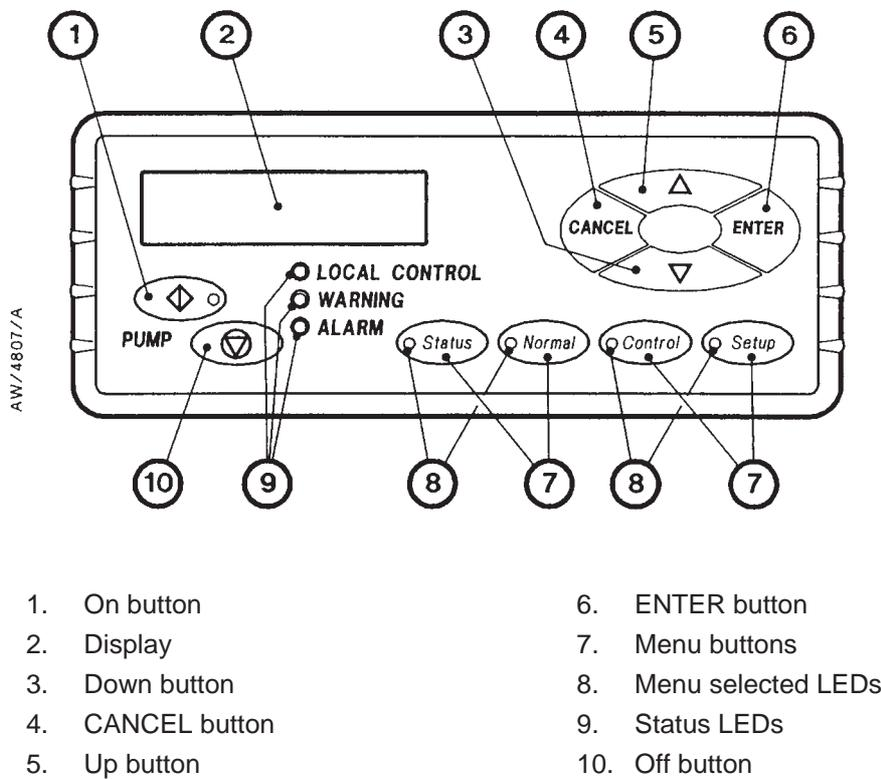
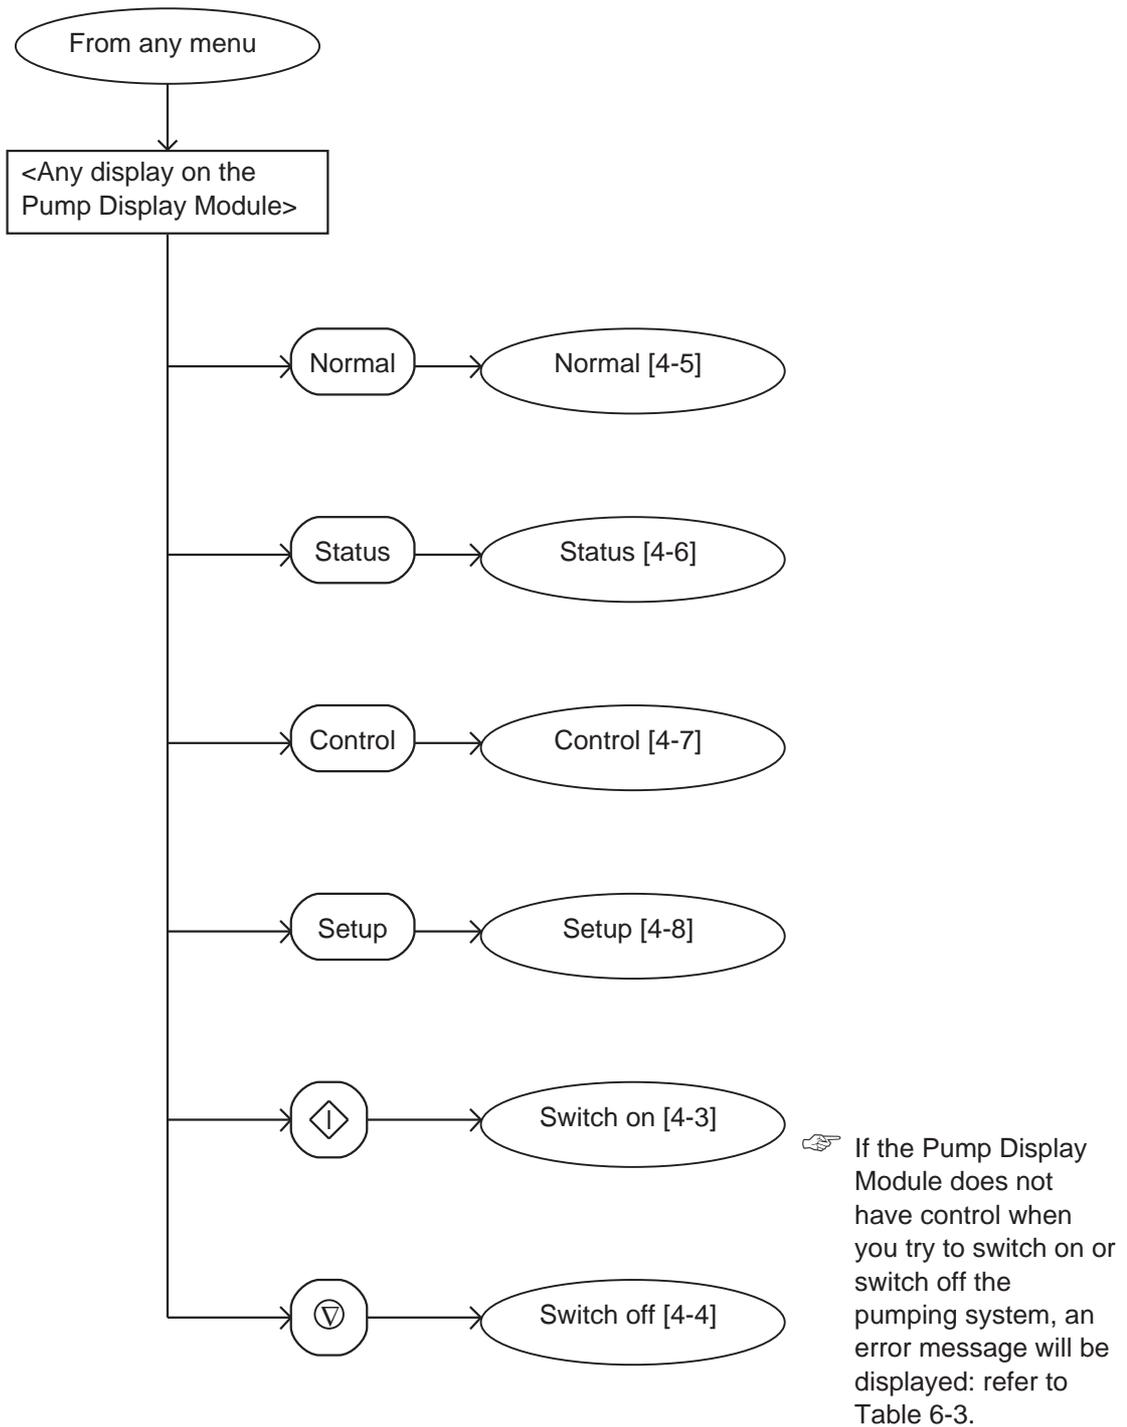

Figure 4-1 - Front panel of the Pump Display Module (optional accessory)
Figure 4-2 - Menu logic
The menus used and the display messages shown on the Pump Display Module are described in the menu diagrams in Figures 4-2 to 4-19. The following symbols and conventions are used in the menu diagrams:
When you first switch on the iL system, the normal display is shown: see Figure 4-5. Refer to Figure 4-1. You can then press the On or Off button (1 or 10) or any of the four menu buttons (7) to enter the corresponding menu. Then, regardless of the current menu and display status, when you press any of these buttons, you exit the current menu and enter the corresponding new menu. Figure 4-2 shows this menu control logic.
In the menu diagrams in Figures 4-2 to 4-19, text shown without chevron brackets in the two-line display symbol is the actual text that will be shown on the display. In this text, the 'Δ' symbol is used to show where a digit will be shown; the value of the digit depends on the sensor data or information you enter into the Pump Display Module.